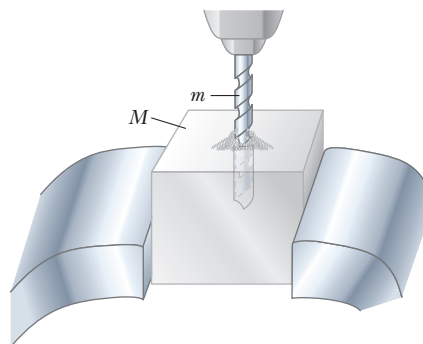

Figure P20.12
12. An electric drill with a steel drill bit of mass  $m = 27.0\text{ g}$  and diameter  $0.635\text{ cm}$  is used to drill into a cubical steel block of mass  $M = 240\text{ g}$ . Assume steel has the same properties as iron. The cutting process can be modeled as happening at one point on the circumference of the bit. This point moves in a helix at constant tangential speed  $40.0\text{ m/s}$  and exerts a force of constant magnitude  $3.20\text{ N}$  on the block. As shown in Figure P20.12, a groove in the bit carries the chips up to the top of the block, where they form a pile around the hole. The drill is turned on and drills into the block for a time interval of  $15.0\text{ s}$ . Let's assume this time interval is long enough for conduction within the steel to bring it all to a uniform temperature. Furthermore, assume the steel objects lose a negligible amount of energy by conduction, convection, and radiation into their environment. (a) Suppose the drill bit cuts three-quarters of the way through the block during  $15.0\text{ s}$ . Find the temperature change of the whole quantity of steel. (b) **What If?** Now suppose the drill bit is dull and cuts only one-eighth of the way through the block in  $15.0\text{ s}$ . Identify the temperature change of the whole quantity